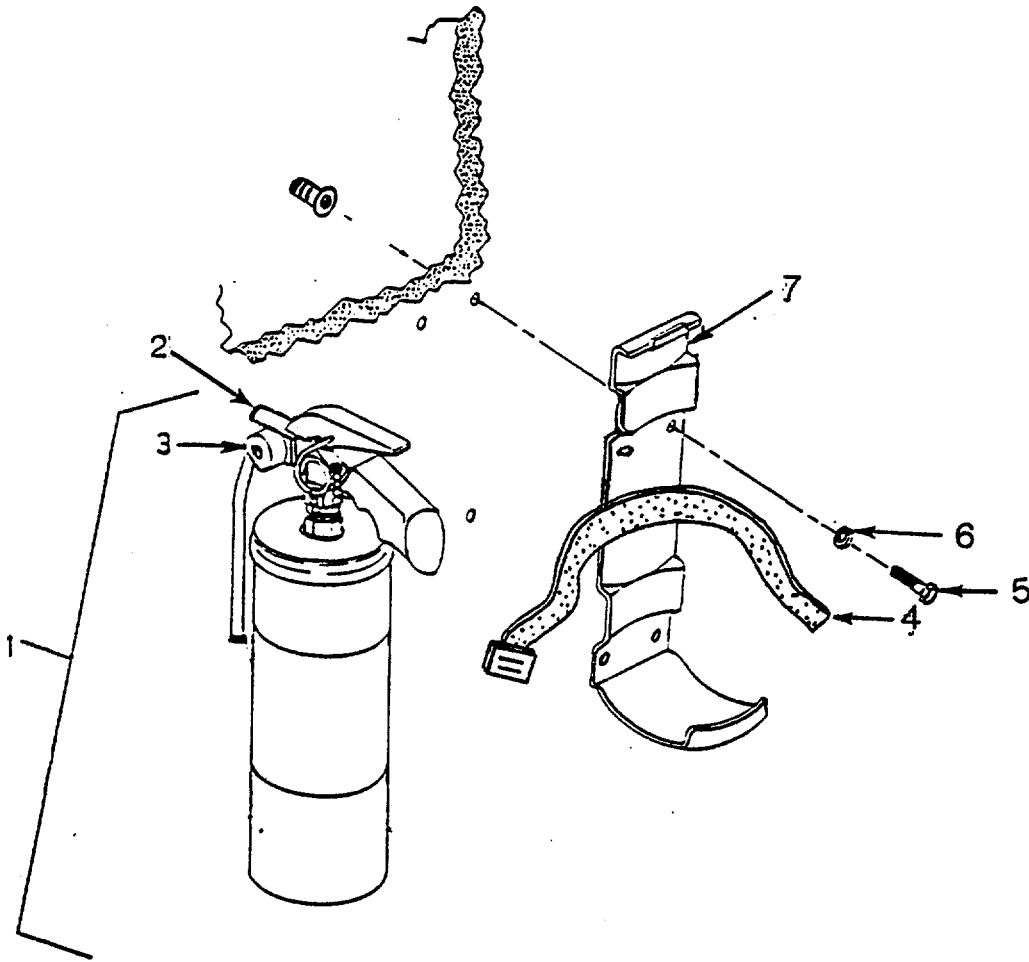

Figure 4-37. Fire Extinguisher
a. Inspection. (See Figure 4-37.)
(1) Check fire extinguisher (1) on interior shelter wall above historical file cabinet for security of mounting.
(2) Check fire extinguisher nozzle (2) and pressure gage (3) for security and proper reading.
(3) Check inspection tag for current date and initials.
b. Replace. (See Figure 4-37.)
(1) Unlock mounting bracket quick release (4) and remove fire extinguisher (1).
(2) Remove mounting bracket screws (5) and lockwashers (6), and remove mounting bracket (7) from wall.
(3) Install mounting bracket (7) with screws (5) and lockwashers (6).
(4) Place fire extinguisher (1) on mounting bracket (7).
(5) Lock mounting bracket quick release (4).